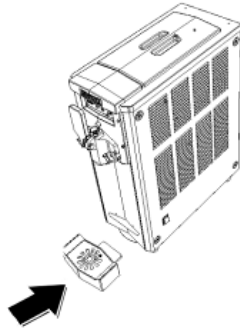

Fig. 64
- Replace the drip tray (Fig. 64).